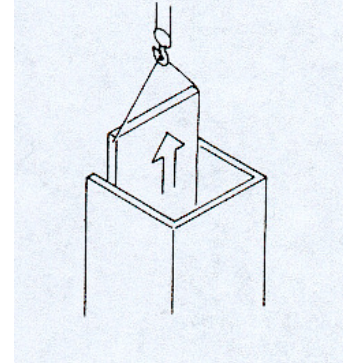

fig.94
- **NEVER** perform a hook run, after having positioned a load, in a way which causes the chain to wobble (fig.94).